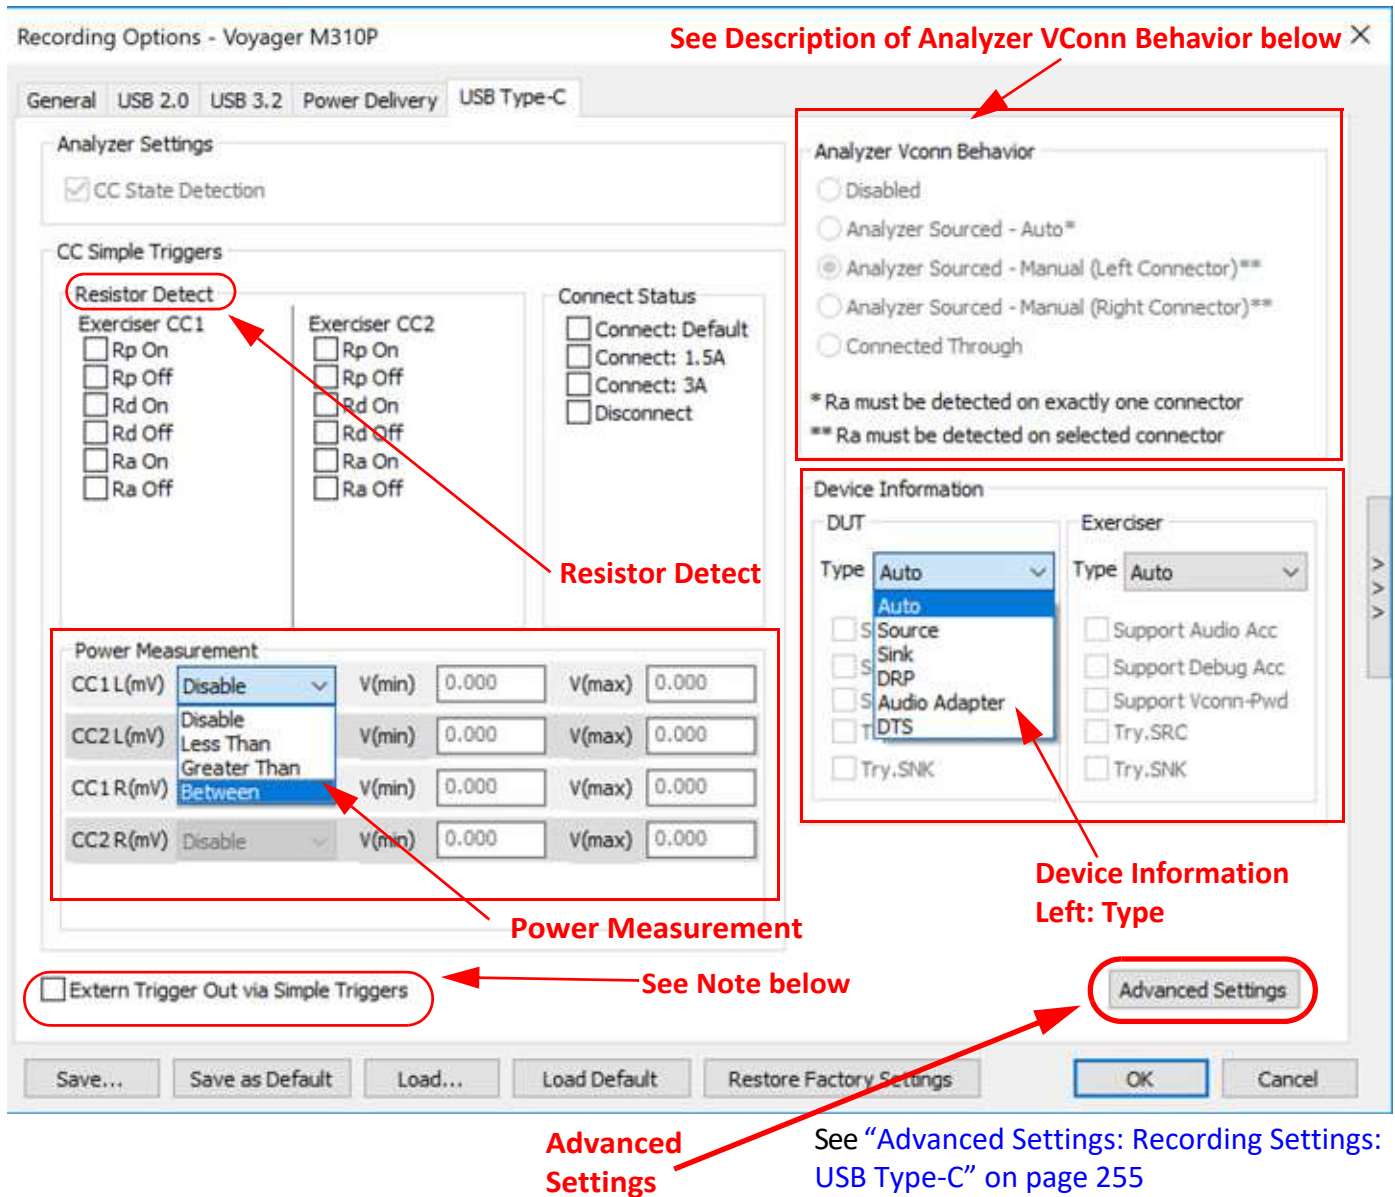

Figure 5.75: USB Type-C Recording Options -> Exerciser (Simple Mode) for M4x, M310P, M310C, T2P and T2C
- ❑ Exerciser Mode: Figure 5.75 on page 330